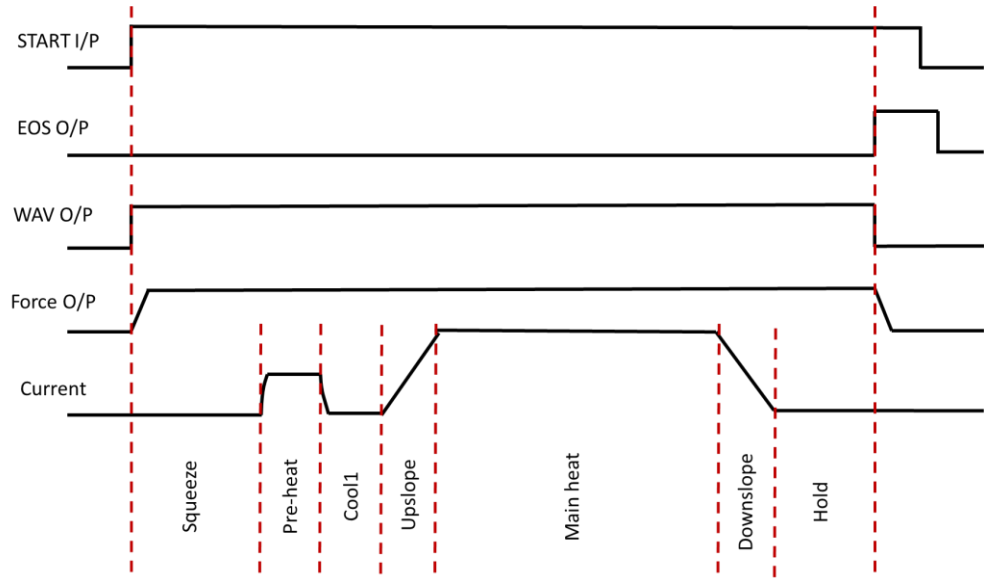

Figure 34: Simple Spot Weld Timing Diagram
The weld program (schedule) to be programmed will follow the Spot Welding timing diagram shown in **Figure 34**. This example is based on a machine with the configuration defined below:
22) The Spot Weld program corresponding to the spot welding timing diagram in Figure 34 has now been stored in the iPAK2v2 weld control and it is ready for use.